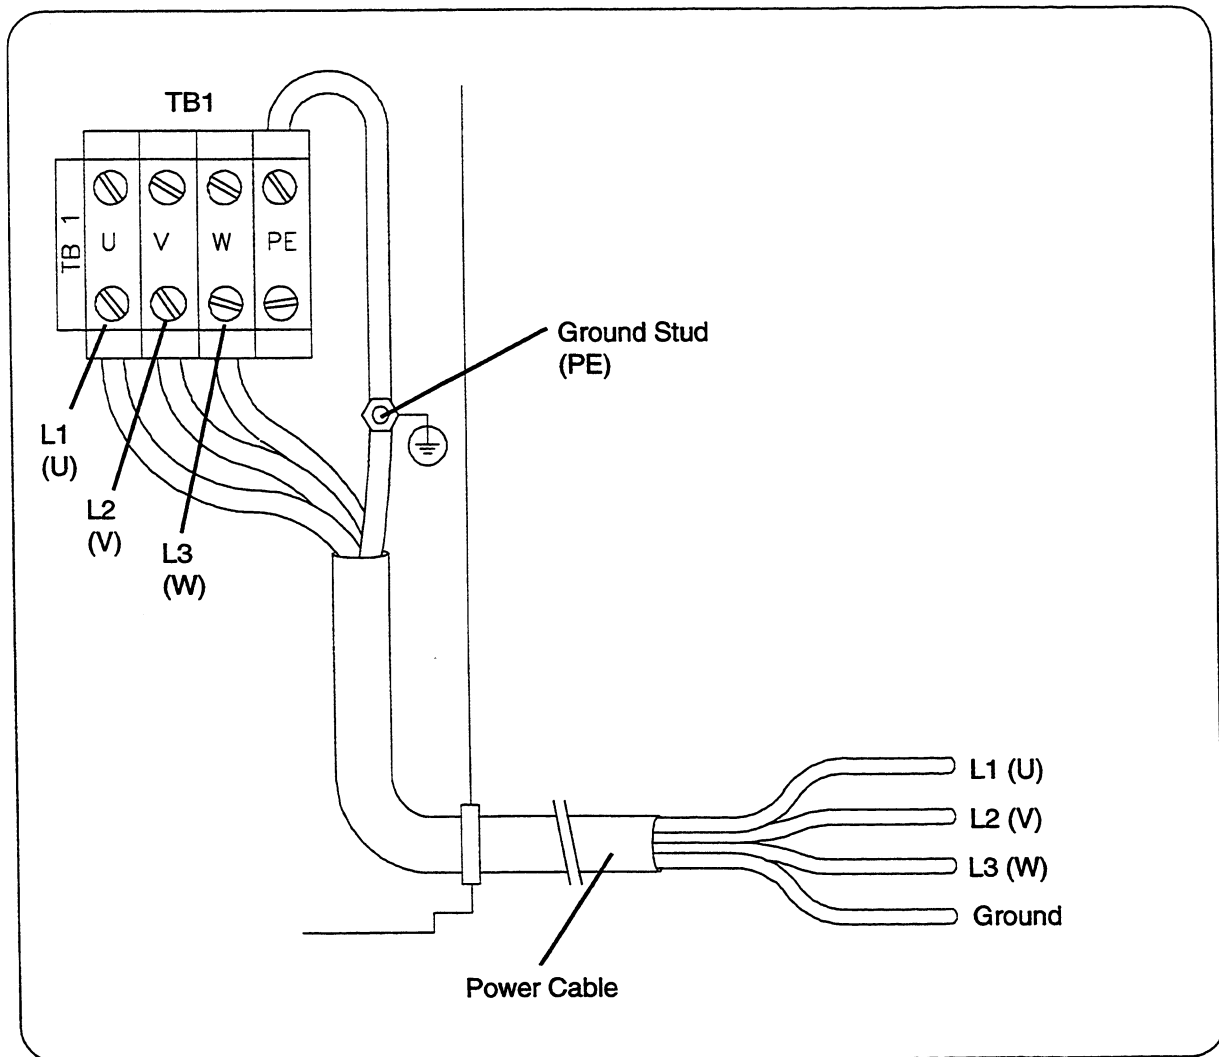

Figure 5-1 Primary Power Measurement Location
5. For a 200, 208, 240, 480, or 600- volt power supply measure the voltage at TB1 between L1 (U), L2 (V) and L3 (W). Refer to Figure 5-1 for detail of TB1. Also refer to wiring diagram 013-4-266 supplied with manual, if required. The voltage between any two of the three points at TB1 should be equal to the supply voltage (200, 208, 240, 480, or 600 VAC). If there is a problem at this point, disconnect main power and check connections, power cable, and fuses or circuit breaker at line disconnect switch. Repair and/or replace defective component(s) if necessary.